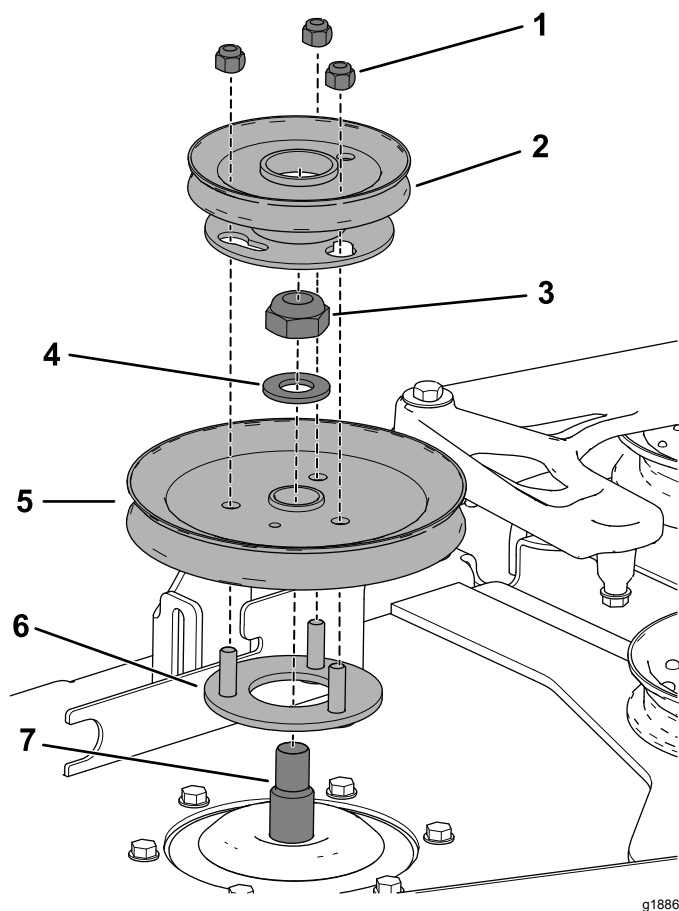

Figure 29
- A. Insert the threaded studs on pulley mount through the holes in the deck pulley (Figure 29).
- B. Use the locknut (3/4 inch) and washer that you set aside earlier to secure the deck pulley to the spindle shaft (Figure 29).
- D. Arrange the blower pulley onto the threaded studs and loosely install the locknut (Figure 29).